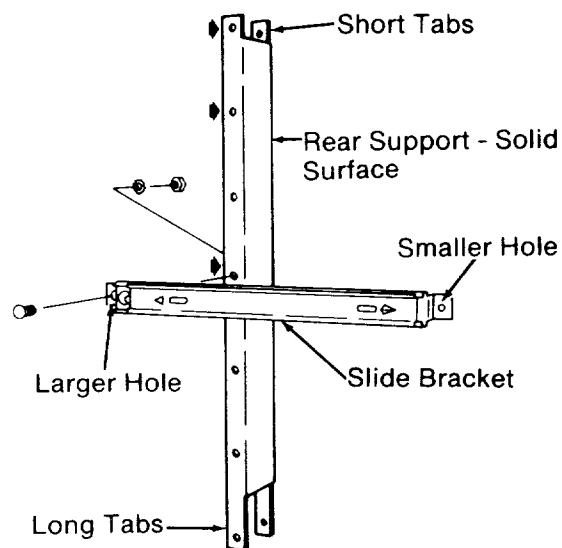

Fig. 34
5. Attach three *slide brackets* to the left side of this *rear support* with three truss head bolts. Make sure that you attach the larger hole in the *slide bracket* to the *rear support*. Put a lockwasher and hex nut on each bolt and tighten using a 7/16 inch wrench or socket. (Figure 34)